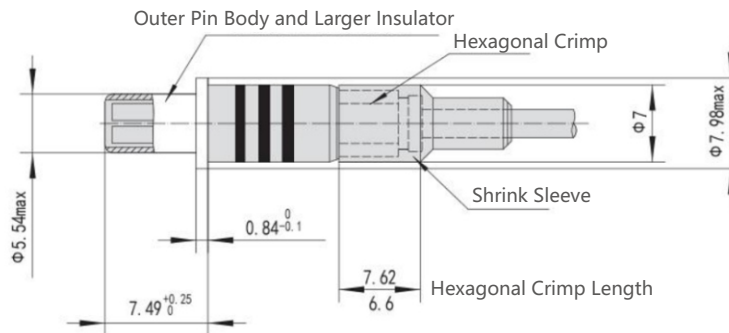

Figure 3.6
⑥As shown in Figure 3.6, proceed as follows: